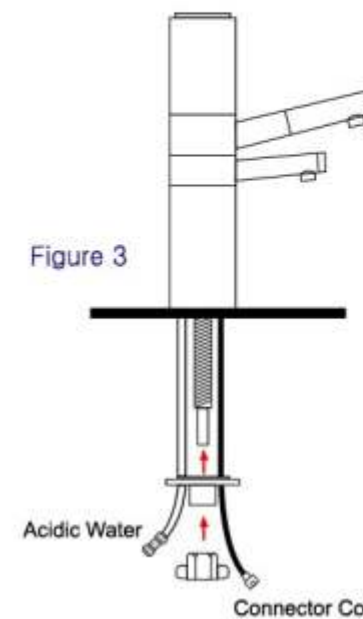

Figure 3
- 3 Fix the hose in the hole of the Circle Plate and insert the flexible acidic line and Connector Cord in the appropriate slots (as shown in Figure 3). Important Note: Label the diagram showing the Circle Plate with hose and wire "Figure 3"